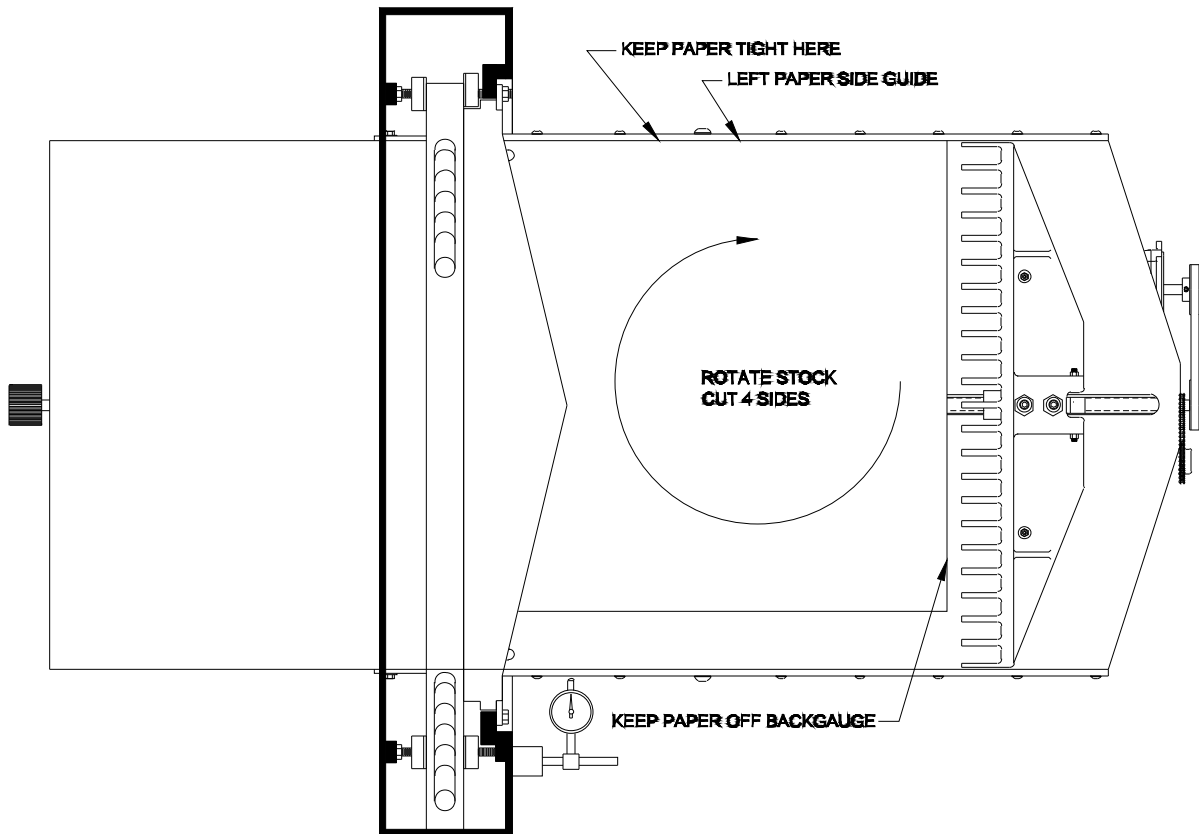
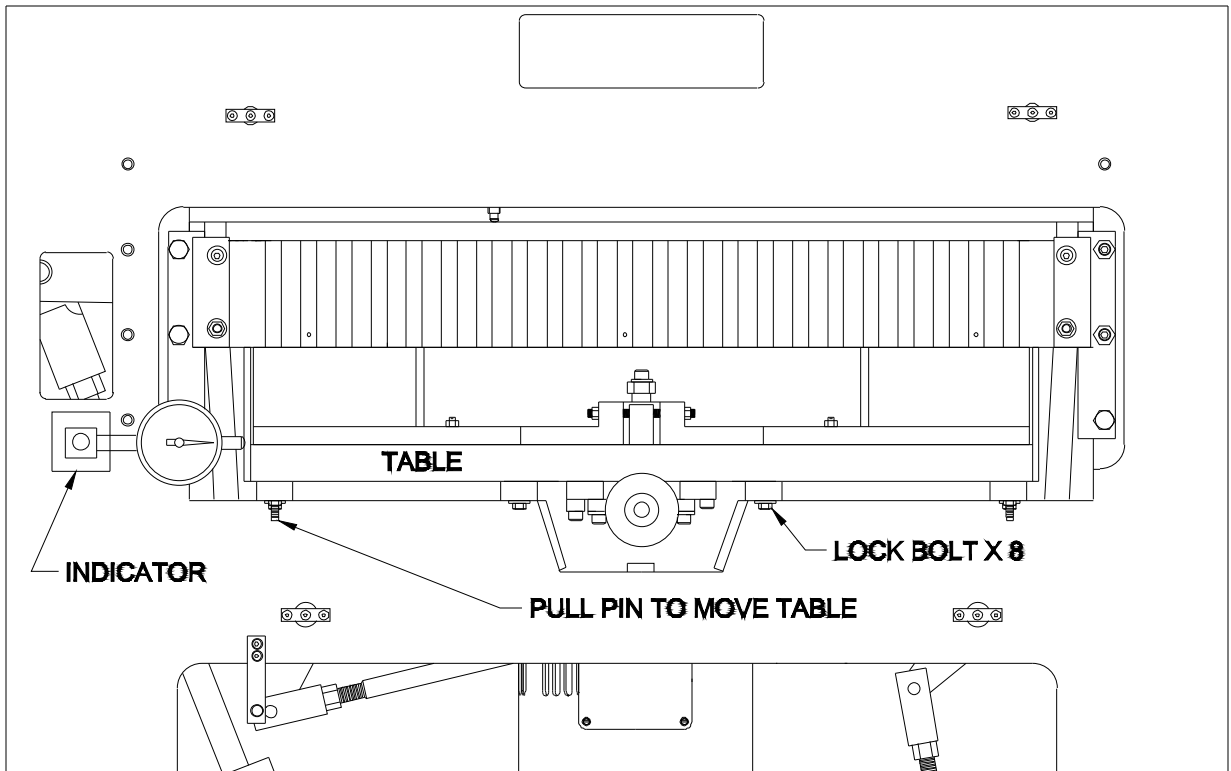

Fig 23
Fig 25
1. Check that the blade beam gibs are adjusted properly and with zero (0) clearance. See pg. 20.
- Trim approximately 1/8" off all four (4) sides of the stack. Make sure your last cut is across the longest side of the stack. When trimming make sure the stack is jogged to the left side plate and not touching the backgauge. Always turn the stack clockwise after each cut insuring the trimmed edge is to the left side plate before the next cut. Fig. 23.
- If the middle stack is short on the right side then swinging the rear of the table to the right is needed. Remove the table pin on the right side of the table. Fig. 25. Loosen the eight (8) table lock bolts. Use a dead blow hammer or a hammer and a block of wood to move the table. A dial indicator must be used to record from "0" the measurement made + or -. See Fig. 23 for dial indicator placement.
- Tighten the eight (8) bolts and repeat steps 2 through 5. If the three (3) stacks are even, you can verify the sheet is straight by folding a sheet in half. This is not as accurate as using the three (3) stacks.
- If the middle stack is short on the left side then swinging the rear of the table to the left is needed. Remove the table pin on the right side of the table. Fig. 25. Loosen the eight (8) table lock bolts. Use a dead blow hammer or a hammer and a block of wood to move the table. A dial indicator must be used to record from "0" the measurement made + or -. See Fig. 23 for dial indicator placement.